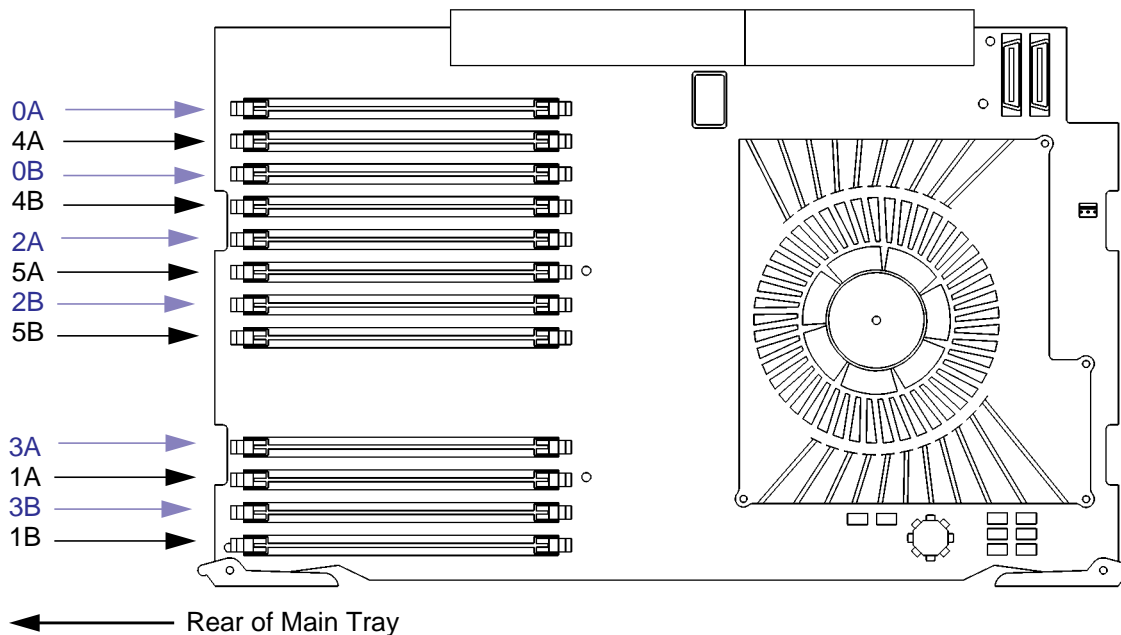

Figure 40
- Modules must be inserted in the lowest numbered memory connector pair first, then in numerical order. For example, install memory in 0A and 0B first, then 1A and 1B, 2A and 2B, 3A and 3B, 4A and 4B, and 5A and 5B. Memory slots must be filled in order from 0A and 0B through 5A and 5B. Refer to Figure 40 for memory pair numbering and location. Insert memory modules in decreasing order of memory module size. For example, install 128 MB modules, then 64 MB, 32 MB, and finally, 16 MB modules.
- 2 Use Figure 40 to locate the memory modules on the CPU Assembly.